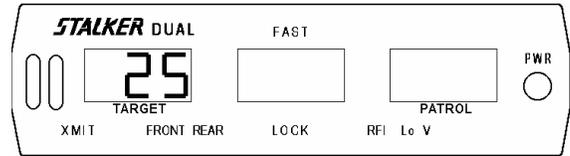

Fig 50
Two (2) tuning forks are supplied for **STALKER DUAL**. The tuning forks are calibrated for 25 mph and 40 mph (40 and 64 kph). To perform the tuning fork test, power the unit ON (press **PWR** switch), select stationary mode (press **MOV/STA** key), select the front antenna (press **ANT** key), and place the unit in transmit mode (press **XMIT** key). Strike the 25 mph tuning fork against a hard nonmetallic surface, such as the heel of a shoe. Quickly hold the tuning fork approximately two (2) inches in front of the antenna, with the narrow edge of the fork facing the antenna. The target window should indicate 25 ± 1 mph (40 kph) (Fig 50). Repeat the above test with the 40 mph (64 kph) tuning fork. Select the rear antenna, if purchased, and repeat both tuning fork tests. *Note: We recommend that the tuning fork test be performed on each antenna. Some departments perform this test both before and after each citation. Check your department policy.*